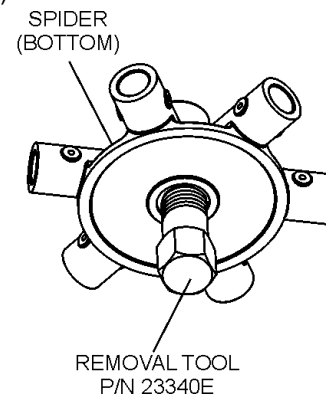

Figure 4. Removal Tool
7. Insert spider removal tool (P/N 23340E) into machined threads on spider (Figure 4) and torque to 300 ft-lb (407 N·m).